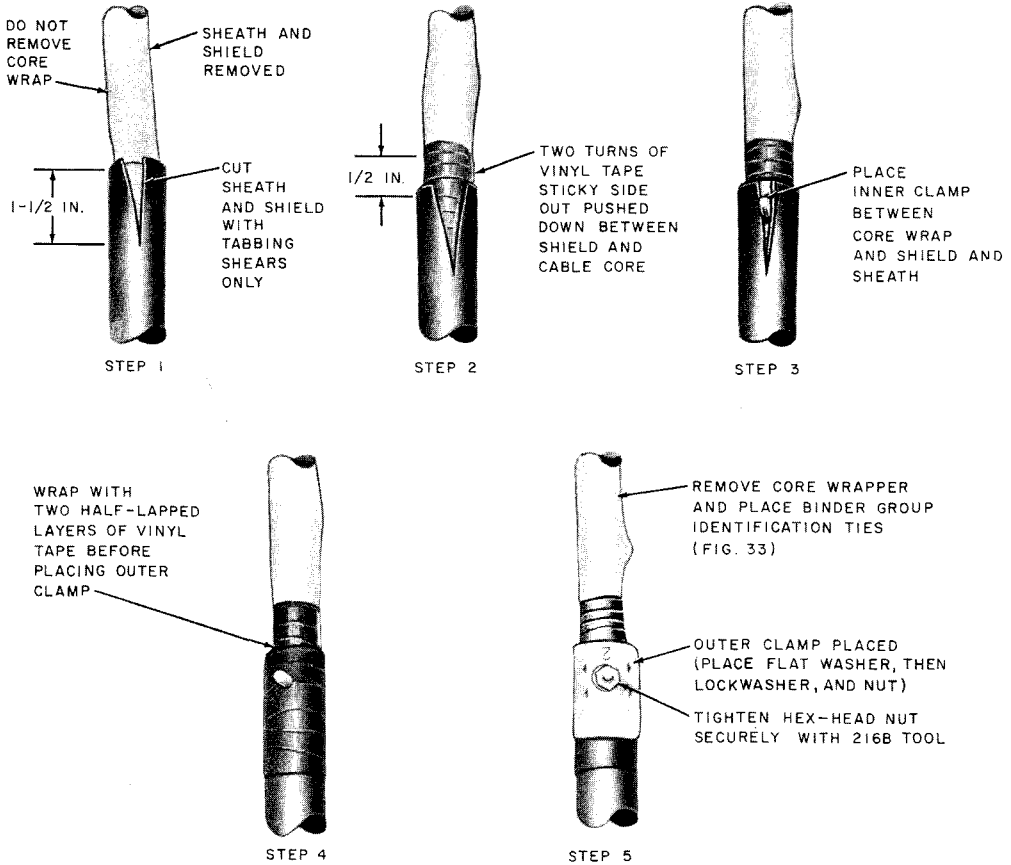

Fig. 29—Placing Bond Clamp
7.04 The bond clamp is placed on the cable as illustrated in Fig. 29.
SEE FIG. 29